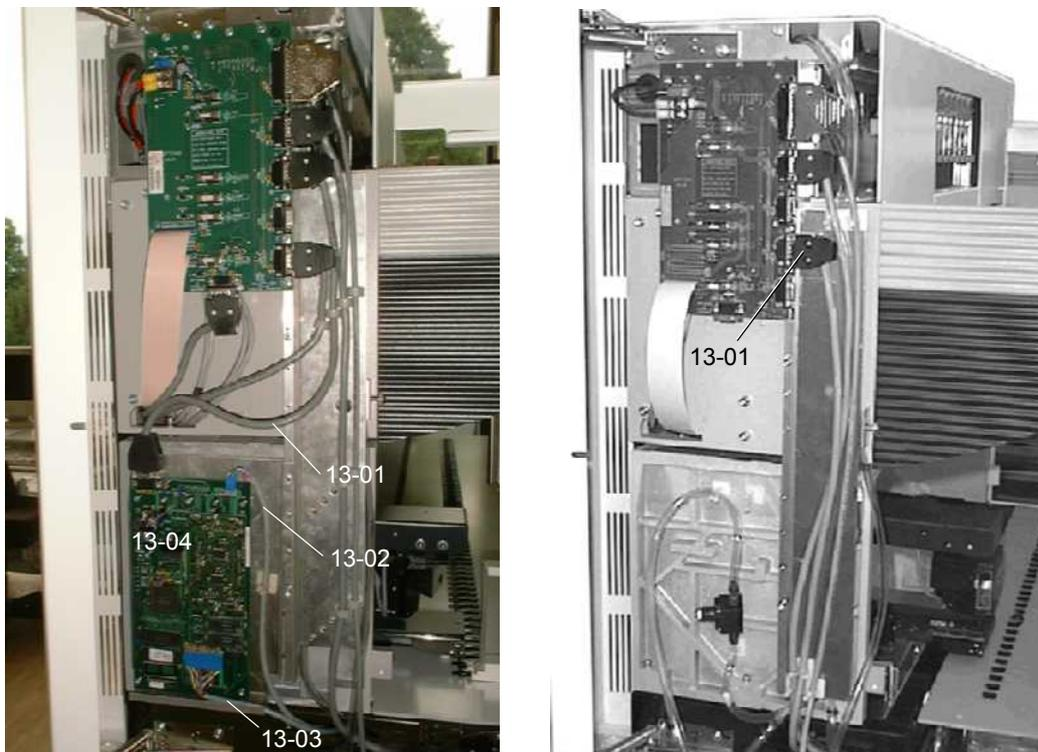

Figure 6-148 PosID 2 cable connections: new version (left) and older version (right)
- 2 Refer to Figure 6-148, 'PosID 2 cable connections: new version \(left\) and older version \(right\)':